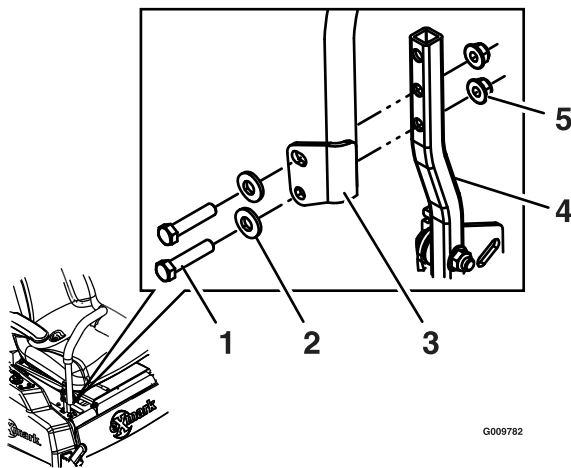

Figure 15
1. Remove the two bolts holding the control lever to the control arm shaft (Figure 15).
2. Loosen the lower bolt just enough to pivot the control lever fore or aft (Figure 15). Tighten both bolts to secure the control in the new position.